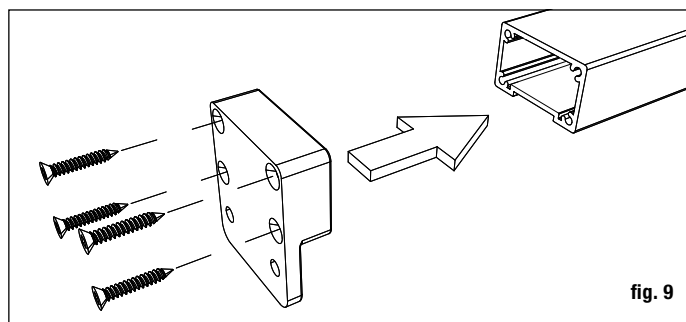

fig. 9
Step 7 Place the brackets on ends of the rail. Attach the brackets to the rail with a screw attached through back of bracket into each internal screw boss (fig. 9).